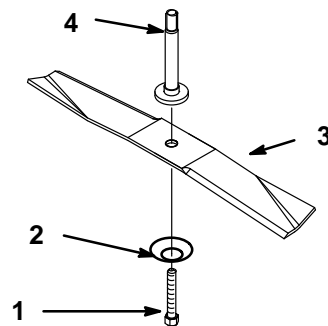

Figure 32
3. Hold the blade end using a rag or thickly padded glove. Remove the bolt, Bellville washer, and blade (Fig. 32). A block of wood may be wedged between the blade and the mower to lock the blade when you are removing the bolt.
1. Hold the blade end using a rag or thickly padded glove. Install the blade, Bellville washer, and the blade bolt (Fig. 32).